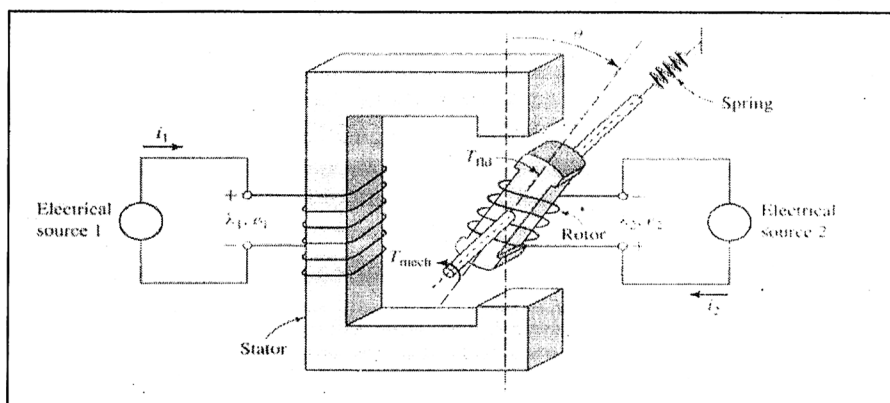

Fig.3
5. In an electromagnetic-energy-conversion-device shown in fig.3, if one winding is mounted on a stationary member of iron and another winding is mounted on the movable member of iron then obtain the expression for electromagnetic torque in this doubly excited rotational electromechanical energy converter. Assume the necessary parameters for the system concerned. Also derive expressions for the speed and the transformer emfs.